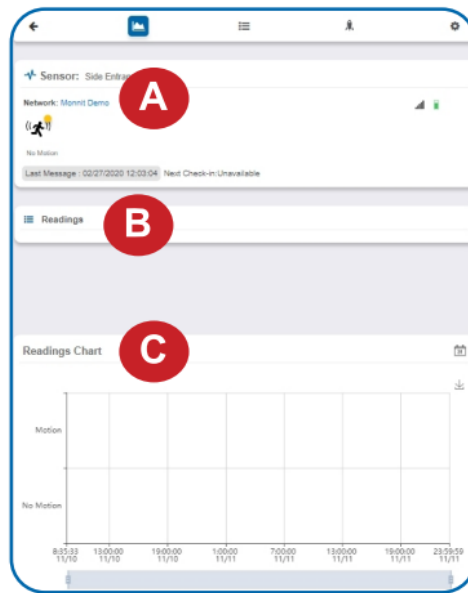

Figure 10
- The Details View will be the first page you see upon selecting which sensor you would like to modify. See Figure 10.
The Details View will be the first page you see upon selecting which sensor you would like to modify. See Figure 10.